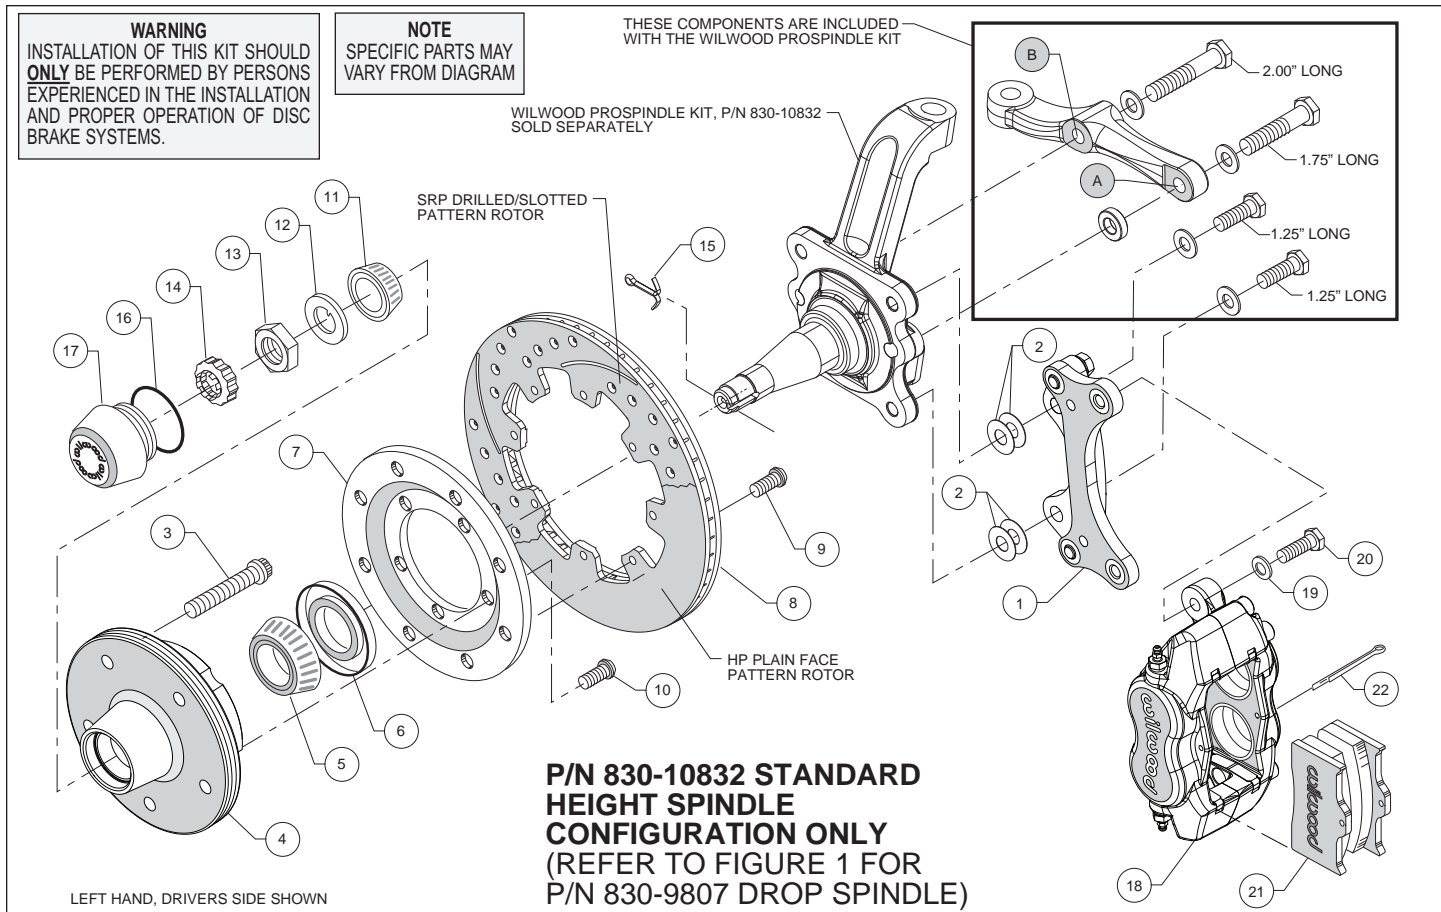

Figure 2. Installation Configuration for Standard Height Spindle, P/N 830-10832
- Orient the bracket as shown in Figure 2 and Photo 2. Install using 1.25" long bolts and .06" thick washers (from ProSpindle kit), and two .016" thick shims (2) on each bolt between the bracket and spindle, Figure 2. Temporarily tighten mounting bolts. **NOTE:** The bracket must fit squarely against the mounting points on the spindle. Inspect for interference from casting irregularities, machining ridges, burrs, etc. Later, after the caliper alignment has been checked, the mount bolts will be secured using red Loctite® 271.
- Orient the steering arm, and identify the hole marked 'A', as shown in Figure 2. Install using 1.75" long bolt, .06" thick washer, and .30" thick spacer (all from ProSpindle kit), Figure 2.
- Finish attaching the steering arm through the hole marked 'B', as shown in Figure 2. Install using 2.00" long bolt and .06" thick washer (from ProSpindle kit), Figure 2.